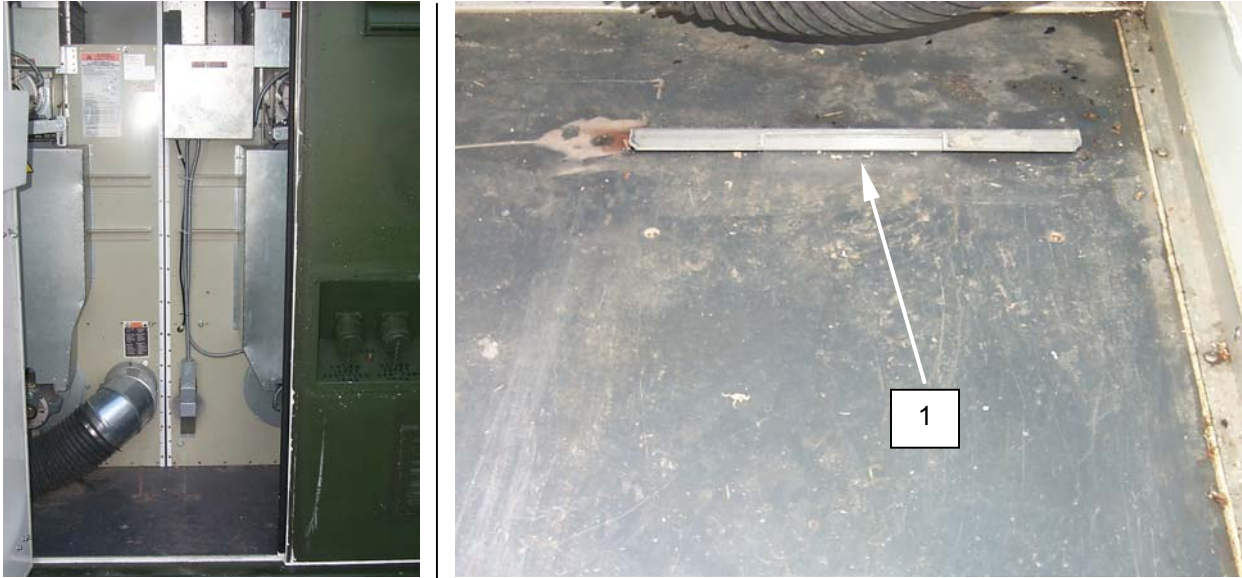

Figure 10. Slide the Air Compressor into Place.
2. Locate the air compressor retaining bracket (**Figure 10, Item 1**).